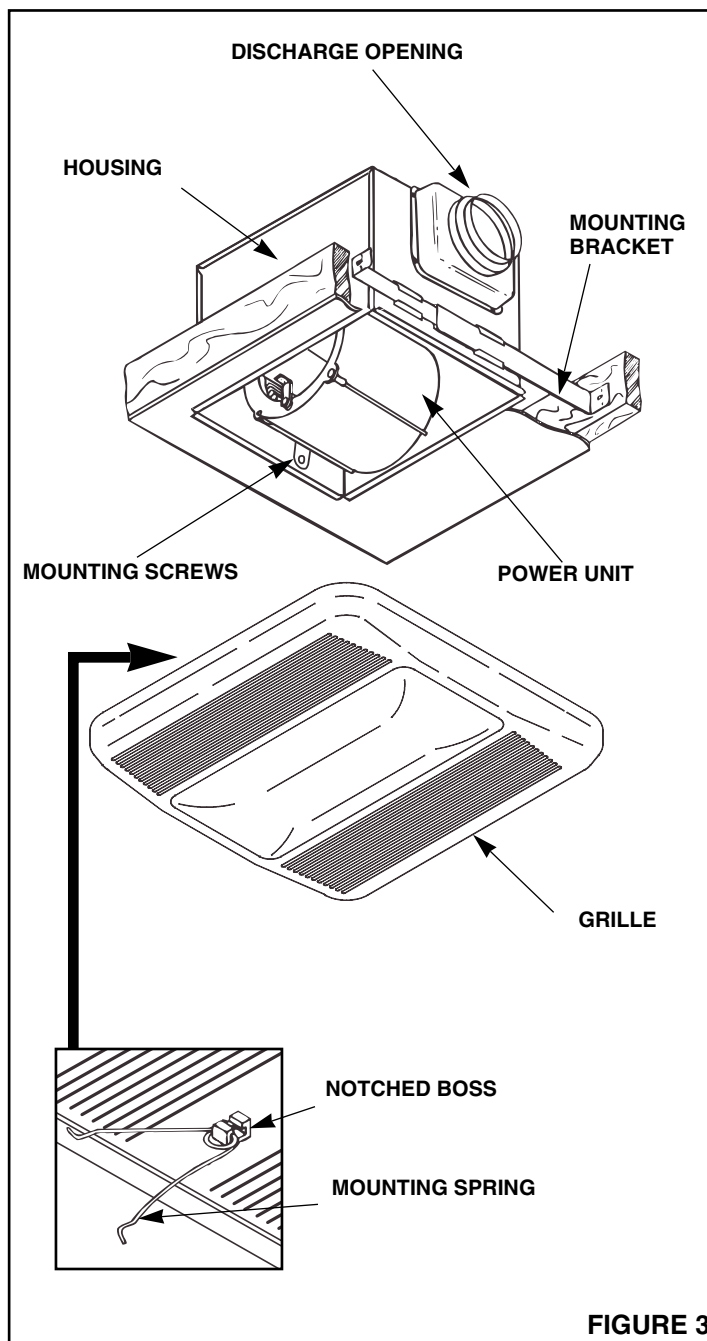

FIGURE 3
1. Refer to Figure 3. Insert mounting brackets at each end of housing.
5. Refer to Figure 3. Securely tighten screw.